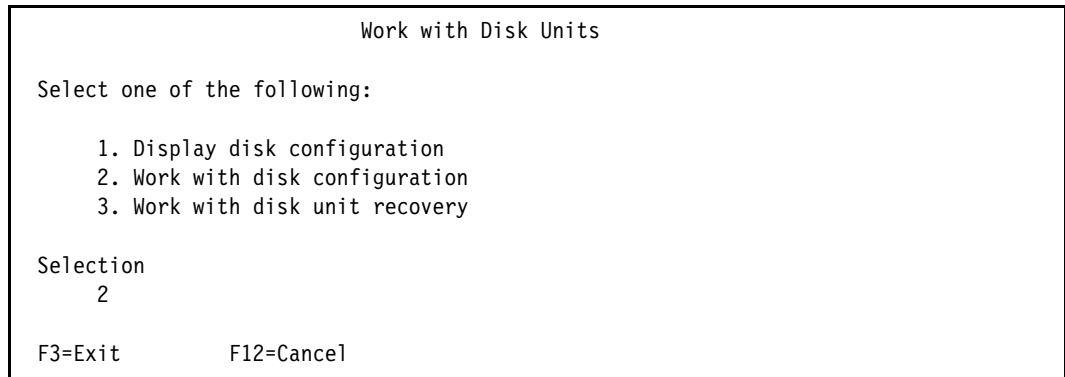

Figure 18-2 Work with Disk Units menu
3. Select Option **2**, Work with disk configuration as shown in Figure 18-2.